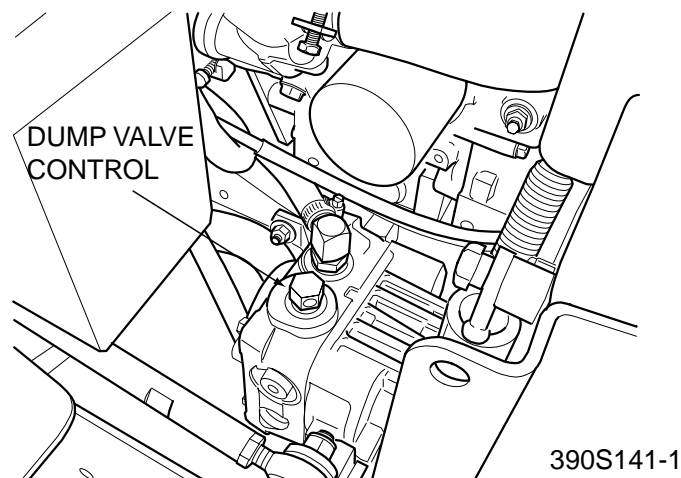

Figure 4-2 Dump Valve Control
13. **Dump Valve Control Levers (Figure 4-2).** Located on the hydraulic pumps, used to "free-wheel" the mower. Rotating the levers clockwise until they stop allows the unit to move under hydraulic power. The levers must be in this position and torqued to 10ft/lbs during operation of the mower. Rotating the levers counter-clockwise allows the mower to be moved by hand (free-wheeling).
To “free-wheel” or move the mower around without the engine running, place the dump valve levers in the FREE-WHEEL position (Figure 4-2, Page 11). Disengage the parking brake and move the mower by hand. The dump valves must be returned to the DRIVE position and torqued to 10ft/lbs to drive the mower.